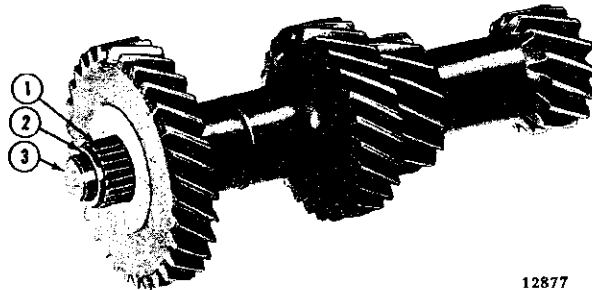

FIG. J-26—COUNTERSHAFT GEAR BEARING ARBOR
b. Assemble the countergear center spacer, four bearing spacers, and countershaft bearing rollers in the countershaft gear hub assembly as follows, using Arbor Tool W-335. Place the center spacer inside the hub and insert Arbor Tool in the spacer. Place a bearing spacer at each end of the center spacer and load a set of bearing rollers, and place a bearing spacer at each end to complete the assembly. Refer to Fig. J-26 and J-27.